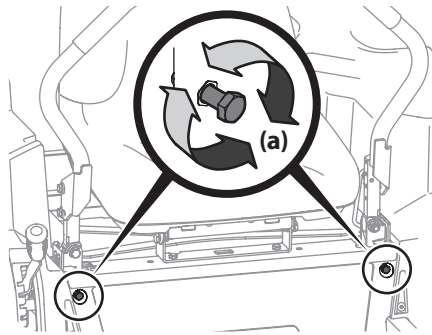

Figure 45
2. Locate the lapbar drive control lever stop adjustment bolts (a) on the front of the seat frame. See Figure 45.
3. To decrease the forward speed, turn the lapbar drive control lever stop adjustment bolts (a) clockwise. To increase the forward speed, turn the lapbar drive control lever stop adjustment bolts (a) counter-clockwise. Turn the lapbar drive control lever stop adjustment bolts (a) in the necessary direction 1/4-turn at a time. After turning the lapbar drive control lever stop adjustment bolts (a), check the adjustment by driving the tractor. See Figure 45.